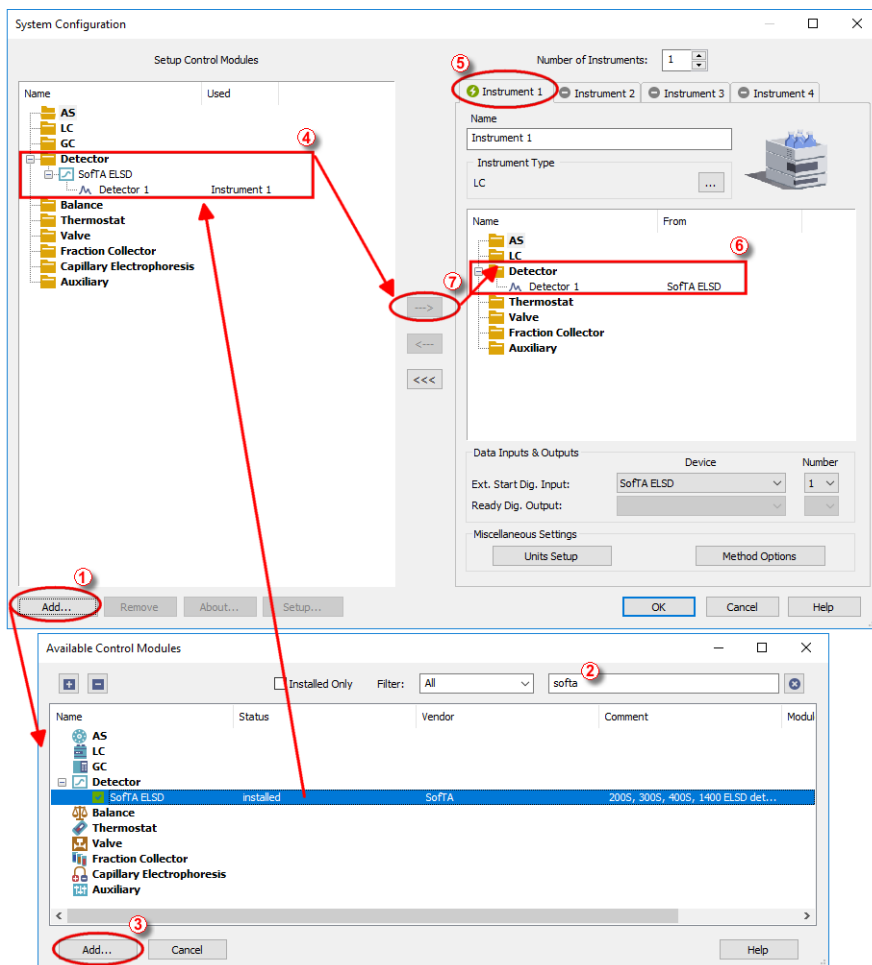

Fig 4: System Configuration
- Press the **Add** button (1) (see Fig 4 on pg 5.) to invoke the **Available Control Modules** dialog.
- You can specify the searching filter (2) to simplify the finding of the driver.
- Select the **SofTA ELSD** and press the *Add* ③ button.